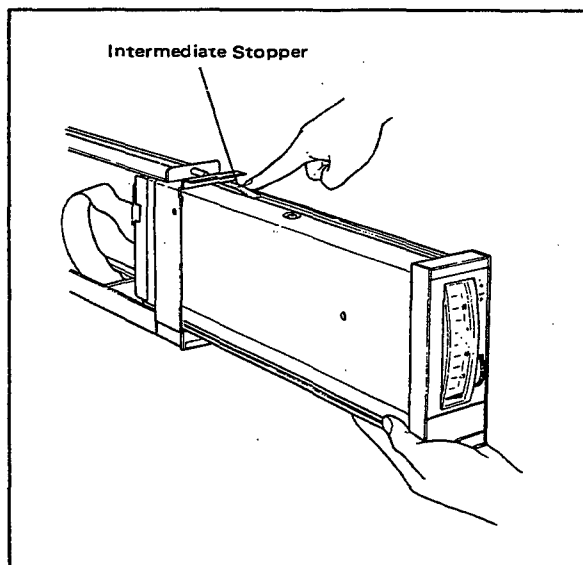

Figure 5-3. Pulling Out the Internal Instrument.
- (3) As the internal instrument is drawn out of the housing, it locks about halfway out. If it is necessary to draw the internal instrument further, press down manually on the intermediate stopper at the top of the internal instrument. (See Figure 5-3.)